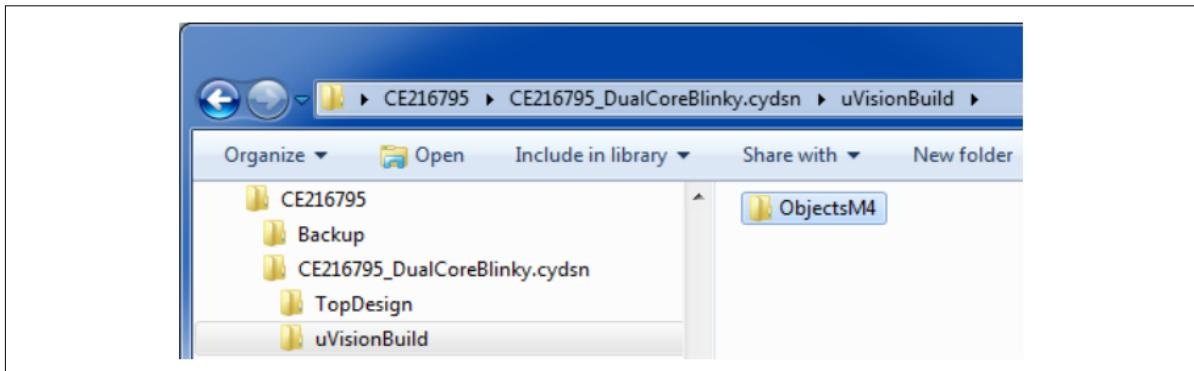

Figure 416 New folders for µVision projects
Recommended: create a new folder (For example, `µvisionBuild`) within your PSoC™ Creator <project>.cydsn folder to store all µVision project files separately from the PSoC™ Creator files (this is different from the IAR instructions). Within that folder, create another new folder for CM4 object files (For example, `ObjectsM4`), as Figure 416 shows:
- In the **Options** dialog, **Output** tab, click **Select Folder for Objects...**, and select the `ObjectsM4` folder that you created; see Figure 416